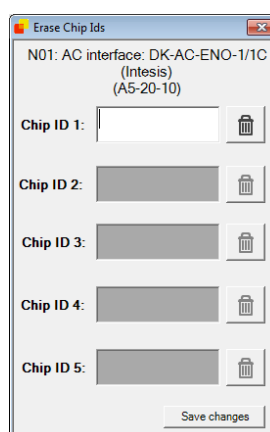

Figure 5.22 Erasing process
- **Erase:** When pressing on the trash icon a new window will pop-up (see Figure 5.22). On this screen, user will see all Chip IDs from the associate node and will be able to delete each Chip ID individually. Remember to press the **Save changes** button before closing the window.